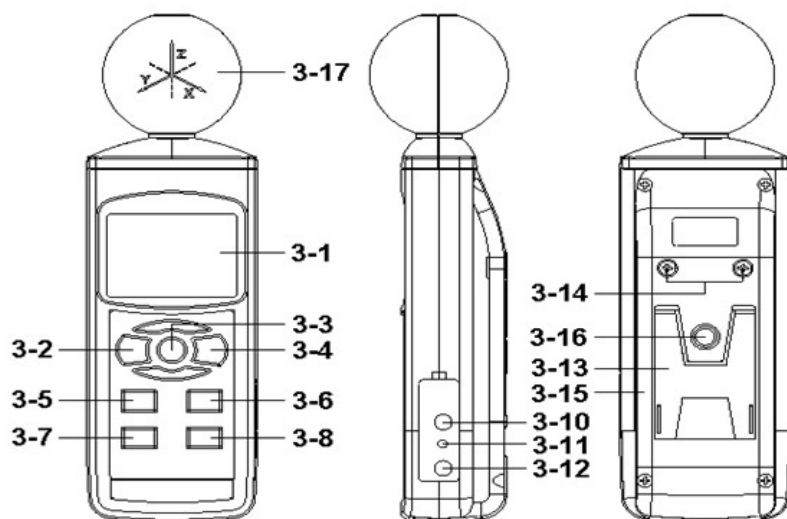

Fig. 1
( 3-2, Fig. 1 ) > 1.5 seconds continuously.
*\* Pressing the " Power Button " ( 3-2, Fig. 1 )
pressing and hold the " Function Button "( 3-6, Fig. 1 ),
pressing and hold the " UNIT Button "( 3-5, Fig. 1 ),
During the measurement, press the " Hold Button " ( 3-3, Fig. 1 ) once will hold the measured value & the " HOLD " symbole will be light, Press the " Hold Button " once again will release the data hold function , ( 3-20, Fig. 1 ) HOLD symbole will be quenched
- 1) The data record function records the maximum and minimum readings. Press the " REC Button " ( 3-4, Fig.1 ) once to start the Data Record function and there will be a " REC " symbol indicator " will be light.
- a) Press the " REC Button " ( 3-4, Fig. 1 ) once, the " REC and MAX Symbol indicator will be light , and the maximum value will appear on the display.
- b) Press the " REC Button " ( 3-4, Fig. 1 ) again, the " REC and MIN " Symbol indicator will be light , and the minimum value will appear on the display.
Under do not execute the Datalogger function, press the " SET Button " ( 3-7, Fig. 1 ) continuously at least 1.5 seconds will enter the " Advanced Setting " mode, then press the " SET Button " ( 3-7, Fig. 1 ) once a while display will show :
***During execute the " Advanced Setting " function,if press " Power Button " (3-2, Fig. 1) once will exit the " Advanced Setting " function, the LCD will return to normal screen.***
- 1) Press the " Enter Button " ( 3-8, Fig. 1 ) once, ,YY symbol will light ,Use the " ▲ Button " ( 3-5, Fig. 1 ) or " ▼ Button " ( 3-6, Fig. 1 ) to adjust the correct value ( Setting start from Year value ). press the " Enter Button " ( 3-8, Fig. 1 ) once, After the desired value is set, YY symbol will be quenched and will going to Month adjustment ( for example, first setting value is Year then next to adjust Month, Date, Hour, Minute, Second value ).
- 1) Use the " ▲ Button " ( 3-5, Fig. 1 ) or " ▼ Button " ( 3-6, Fig. 1 ) to select the led display show " YES " or " NO ".
- 2) After select the lcd display show " YES " or " NO ", press the " Enter Button " ( 3-8, Fig. 1 ) will save the setting function with default.
- 1) Use the " ▲ Button " ( 3-5, Fig. 1 ) or " ▼ Button " ( 3-6, Fig. 1 ) to select the lcd display show " YES " or " NO ".
- 2) After select the led display show " YES " or " NO ", press the " Enter Button " ( 3-8, Fig. 1 ) will save the setting function with default.
- 1) Use the " ▲ Button " ( 3-5, Fig. 1 ) or " ▼ Button "( 3-6, Fig. 1 ) to set measurement value gain.
- 2) After Display will show gain value, press the " Enter Button " ( 3-8, Fig. 1 ) will save the setting value with default.
- 1) Use the " ▲ Button " ( 3-5, Fig. 1 ) or " ▼ Button "( 3-6, Fig. 1 ) to set alarm unit, then press " Enter Button ".
- 2) Then Use the " ▲ Button " ( 3-5, Fig. 1 ) or " ▼ Button "( 3-6, Fig. 1 ) to set alarm value .
- 3) After Display will show alarm value, press the " Enter Button " ( 3-8, Fig. 1 ) will save the alarm value with default.
- 1) Use the " ▲ Button " ( 3-5, Fig. 1 ) or " ▼ Button " ( 3-6, Fig. 1 ) to select the alarm function to show " YES " or "No ".
The meter also can supply the power supply from the DC 9V Power Adapter ( optional ). Insert the plug of Power Adapter into " DC 9V Power Adapter Input Socket " ( 3-12, Fig. 1 ).